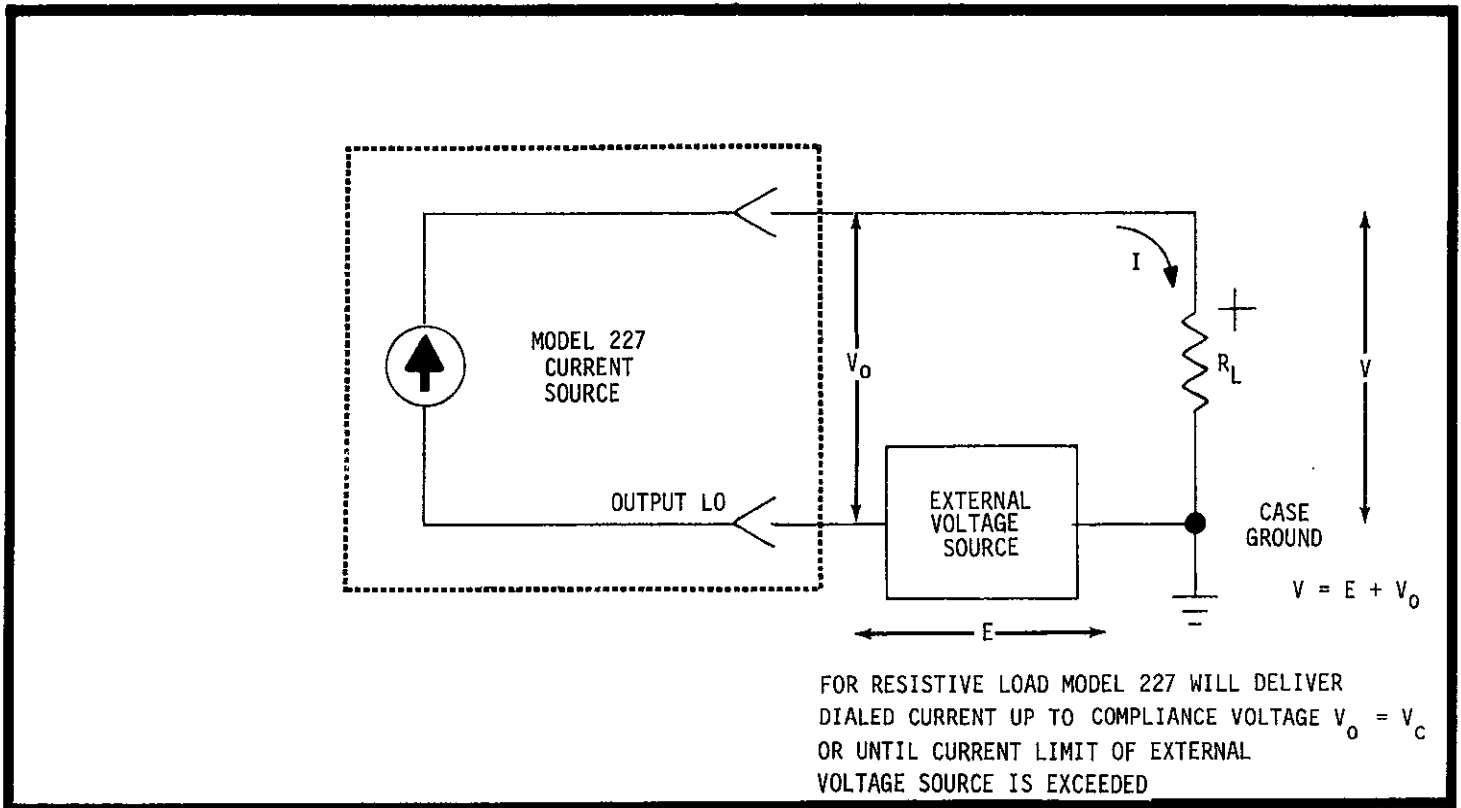

FIGURE 18. Connections for Floating Operation.
a. Extended Compliance Voltage. A typical example of floating operation is shown in Figure 18. In this example, the Model 227 can be used with a voltage supply such as Keithley Model 240A to extend the maximum compliance voltage to 800 volts. The Model 227 then can be adjusted for a compliance voltage of +200V to